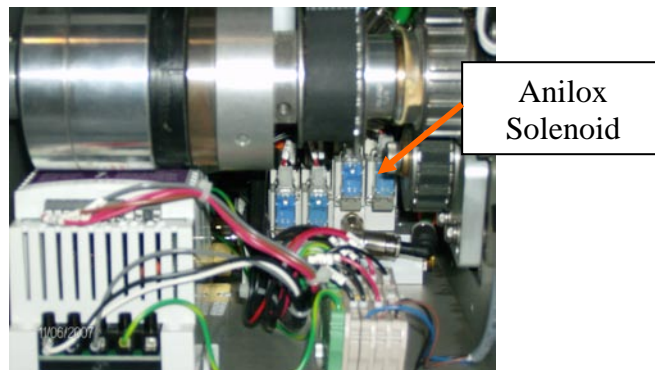

Figure E4: Solenoid Valve Bank
4. Manually activate the Anilox Roll solenoid valve to check air cylinder operation (Figure E4).